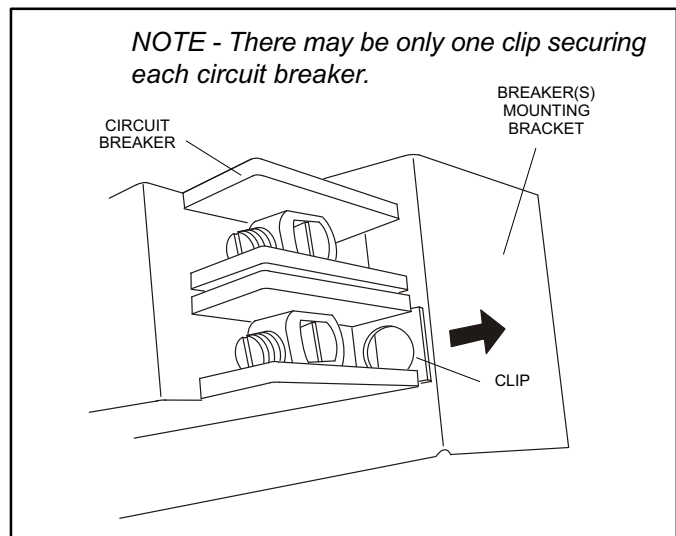

Figure 8. Circuit Breaker Clip
- Locate the one clip which is located on the right side (see arrow) of each breaker (see figure 8). The clip secures the circuit breaker to the mounting bracket. Pull the clip to release the breaker from the mounting bracket.